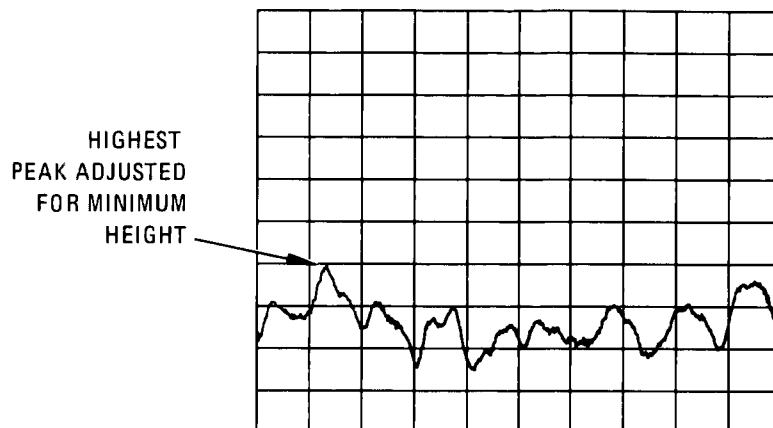

Figure 5-54. Oscilloscope Display at A26TP3 MOD LVL with no Squegging
7. The oscilloscope display should be similar to Figure 5-54. Adjust A24R12 (MIN) so that all points on the trace are reduced to the lowest possible voltage level (i.e., maximum negative voltage).
17. Press [RECALL] [2] on the DUT. The oscilloscope display should be similar to Figure 5-54. Adjust A24R12 (MIN) so that all points on the trace are reduced to the lowest possible voltage level (i.e., maximum negative voltage).